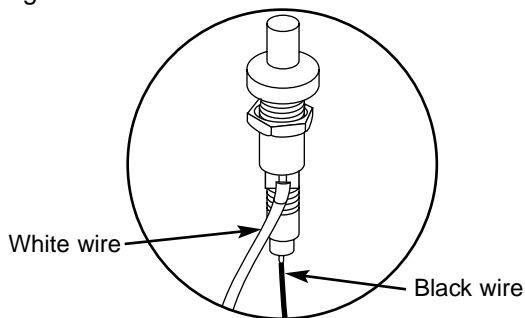

Figure 11
8. Disconnect white and black wire from each igniter. Figure 11.